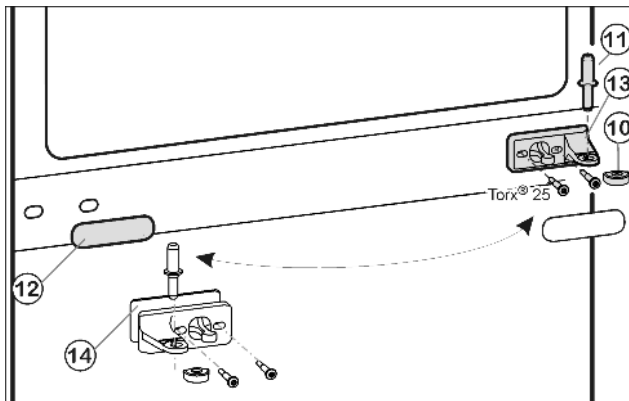
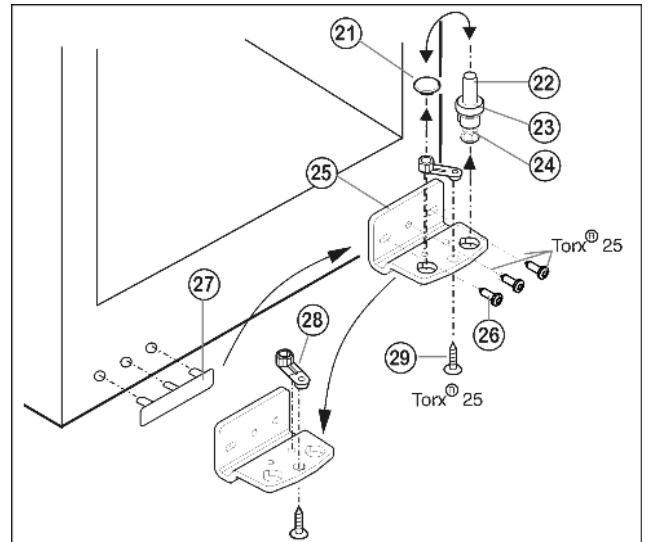

Fig. 9
Fig. 10
- ▶ Draw the middle bearing pin *Fig. 9 (11)* out of the turn hinge and lower door.
- ▶ Remove the plastic cap *Fig. 9 (10)*.
- ▶ Unscrew the middle turn hinge (2x Torx® 25). *Fig. 9 (13)*
- ▶ Carefully detach the cover panel *Fig. 9 (12)*.
- ▶ Turn the middle turn hinge *Fig. 9 (13)* with the washer *Fig. 9 (14)* through 180° and screw it firmly into place on the new hinge side (**with 4 Nm**).
- ▶ Turn the cover panel *Fig. 9 (12)* through 180° and snap it into place again on the new handle side.
- ▶ Lift out the bearing pin *Fig. 10 (22)* together with washer *Fig. 10 (23)* and foot *Fig. 10 (24)*.
- ▶ Lift off the stopper *Fig. 10 (21)*.
- ▶ Unscrew *Fig. 10 (26)* the turn hinge *Fig. 10 (25)*.
- ▶ Unscrew *Fig. 10 (29)* the bearing element *Fig. 10 (28)*, transfer it to the opposite location hole of the turn hinge and screw it firmly into place.
- ▶ Carefully lift off the cover on the handle side *Fig. 10 (27)* and transfer it to the opposite side.
- ▶ Screw the turn hinge *Fig. 10 (25)* firmly into place on the new hinge side, possibly using a cordless screwdriver (**with 4 Nm**).
- ▶ Re-insert the stopper *Fig. 10 (21)* into the other hole.
- ▶ Re-insert the bearing pin *Fig. 10 (22)* together with washer and foot. In so doing, pay attention that the locating lug points backwards
- ▶ Place the lower door from above onto the lower bearing pin *Fig. 10 (22)*.
- ▶ Place the plastic cap *Fig. 9 (10)* back onto the middle turn hinge *Fig. 9 (13)*.
- ▶ Place the middle bearing pin *Fig. 9 (11)* in the lower door, on the new hinge side, through the middle turn hinge *Fig. 9 (13)*.
- ▶ Place the upper door on the middle bearing pin *Fig. 9 (11)*.
- ▶ If necessary, align the doors to the appliance housing by way of the two oblong holes in the bottom turn hinge *Fig. 10 (25)* and middle turn hinge *Fig. 9 (13)*. To do so, unscrew the middle screw in the bottom turn hinge *Fig. 10 (25)*.